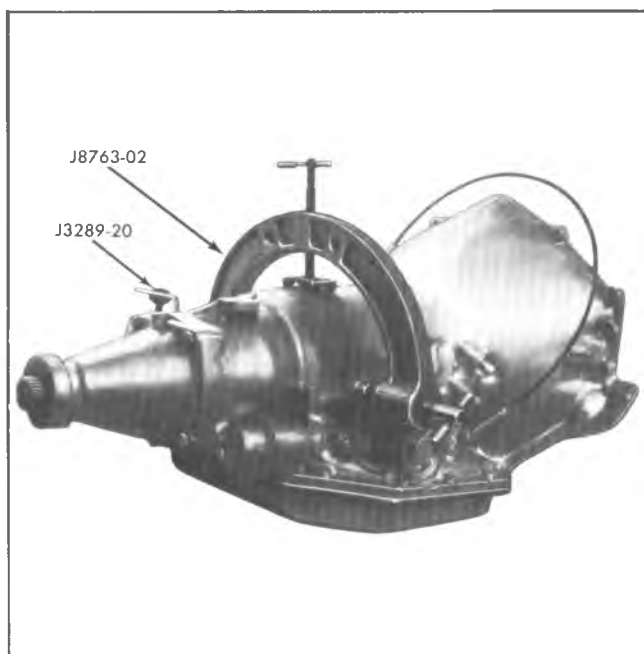

Fig. 2M--Transmission in Holding Fixture
1. Install Holding Fixture J-8763-02 on transmission and place into Holding Tool base J-3289-20 with converter facing up (fig. 2M).